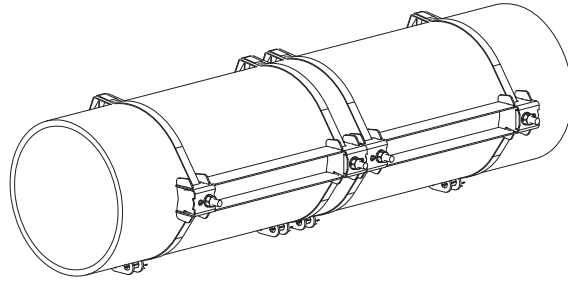

Fig. 8.23: Pipe with 2 rails
- Repeat the steps to fix the second rail (see Fig. 8.23).